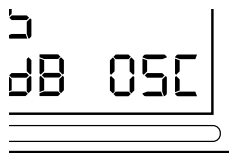

Figure 5
4. A RED light and “OSC” in the bottom-right corner of the LCD screen (refer to Figure 5) indicates that the Signal Booster has shut down to prevent an oscillation, most likely caused by the Inside and Outside Antennas being physically too close to each other. Without this patented protection, oscillations could be transmitted to the cell tower, blocking calls to and from the cell tower. Oscillation occurs just like in an audio system when you put a microphone next to a speaker and get a big squeal. When the Inside Antenna is too close to the Outside Antenna, the same type of oscillation occurs.